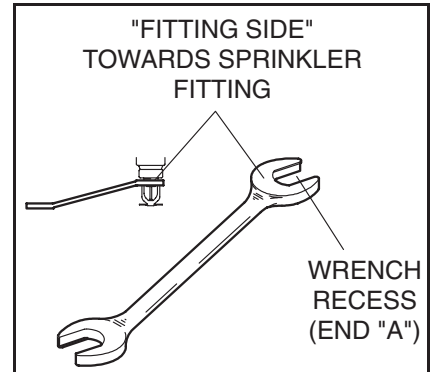

FIGURE 4
Step 3. Wrench tighten upright or pendent sprinklers using only the W-Type 3 (End A) Sprinkler Wrench. Wrench tighten the recessed pendent sprinklers using only the W-Type 22 Sprinkler Wrench. The wrench recess of the applicable sprinkler wrench (Ref. Figure 4 and 5) is to be applied to the sprinkler wrench flats (Ref. Figure 1).